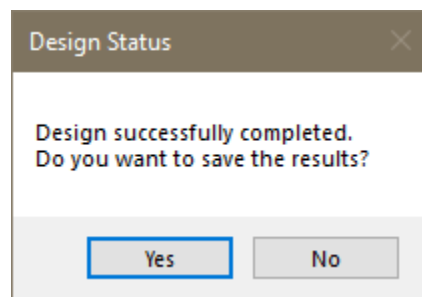

Figure 8-43
- Click on *Floor Design* → *Section Design* and click on the *Design the Sections* icon. The program will start to perform the design of the sections. When completed you should see a window as shown in **FIGURE 8-43**.